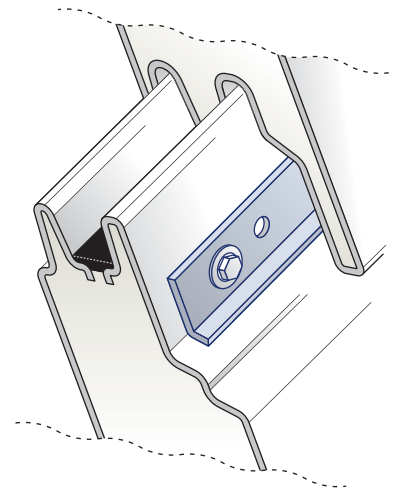

fig. 16
- In order to install the ARPANEL SU panels it is recommended to apply pressure distributor plates. (fig. 16)